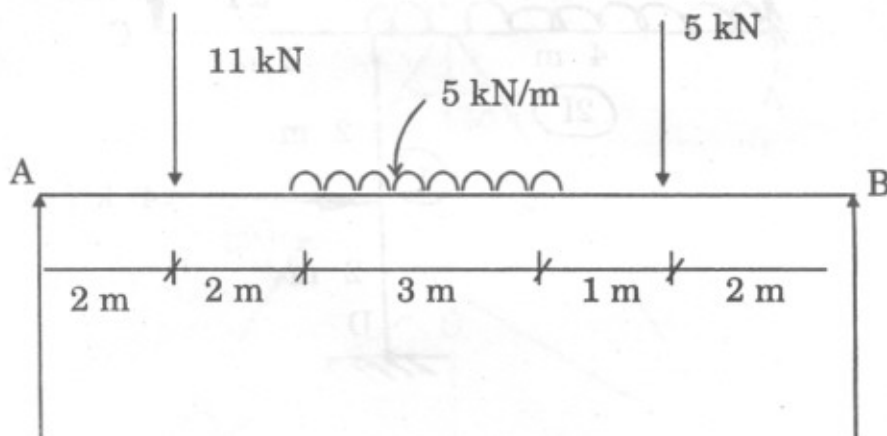

Fig. 14
9. (A) Find the support reactions of a simply supported beam loaded as shown in Fig. 14. Also determine the Bending moment at the centre of the beam, using the influence lines method. [8]